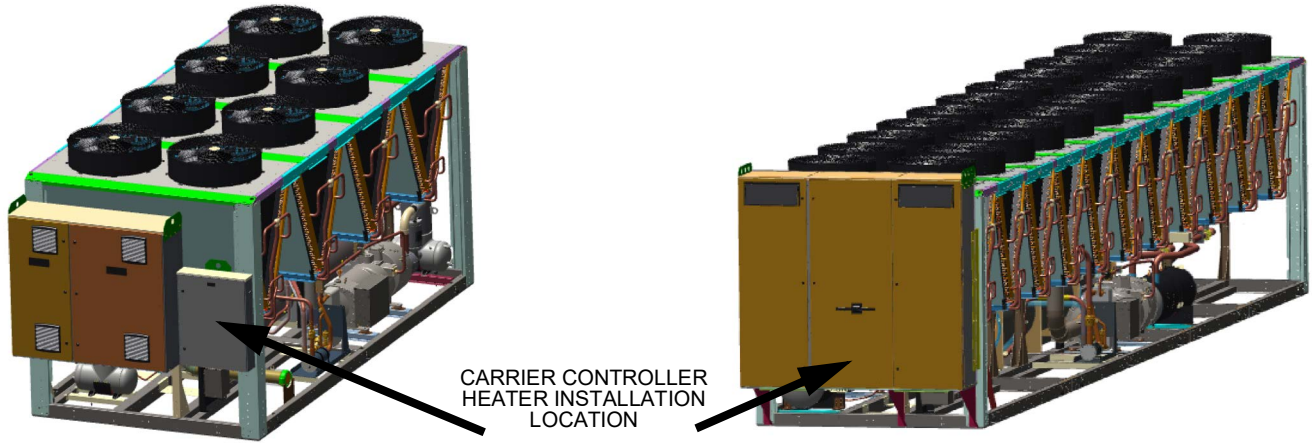

Fig. 2 — Control Box Location for 30XV140-325 (left) and 30XV350-500 (right)
3. Open the unit control box door. Refer to Fig. 2 for door location.